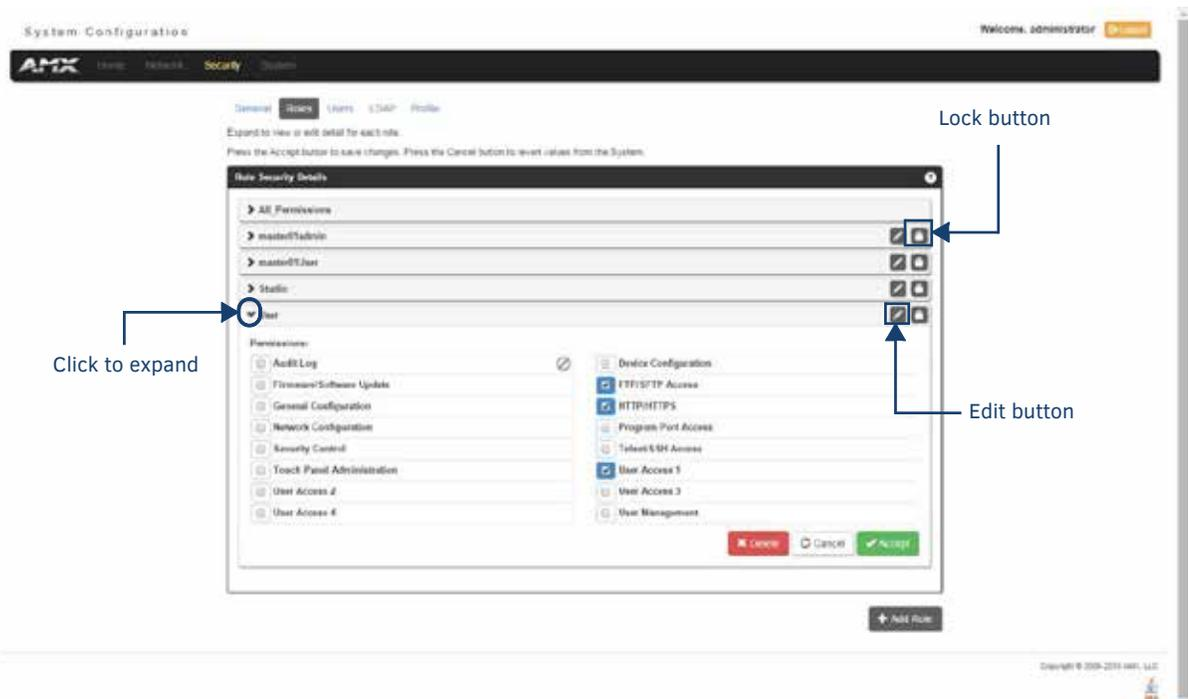

FIG. 77 Role Security Details Page
Click any Role listed on the *Role Security Details* page to expand the view to show details for the selected user Role (FIG. 77):
2. Click the **Edit** button (see FIG. 77) for any Role listed on the *Role Security Details* page to expand the view to show details for the selected Role.
2. Click the **Lock** button (see FIG. 77) for any Role listed on the **Role Security Details** page to lock and disable the Role.